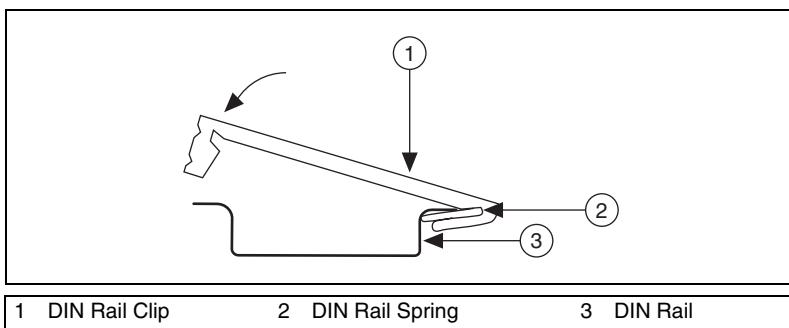

Figure 8. One Edge of DIN Rail Inserted in Clip
2. Insert one edge of the DIN rail into the deeper opening of the DIN rail clip, as shown in Figure 8.